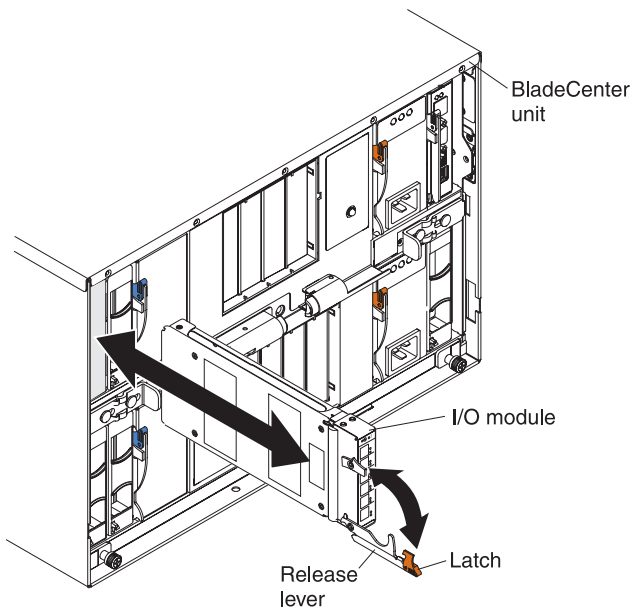

Figure 3. Removing the I/O module
5. Pull the release latch toward the bottom of the I/O module. The I/O module moves out of the bay approximately 0.6 cm (0.25 inch). Make sure that the release latch on the I/O module is in the open position (perpendicular to the I/O module), as shown in the illustration in Figure 3.